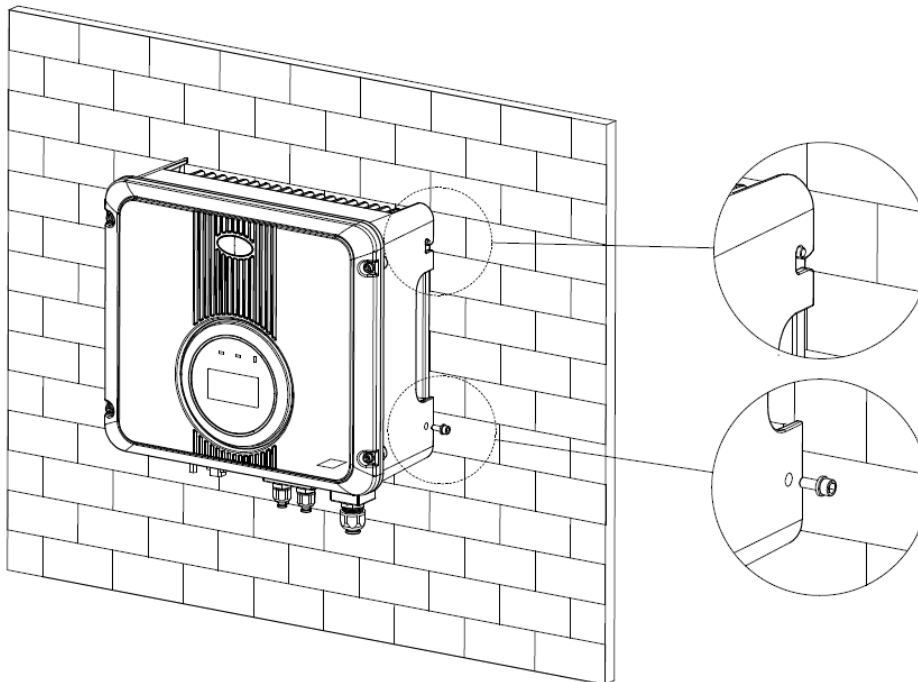

Figure 15
3. Push connectors together. (see fig15.)